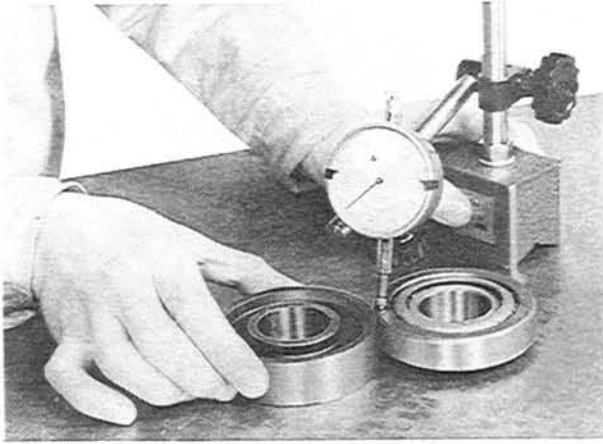

Fig. 9-18 Measuring of bearing height
7. Place the bearing model and the rear pinion bearing on the surface plate and compare their heights as shown in Fig. 9-18.